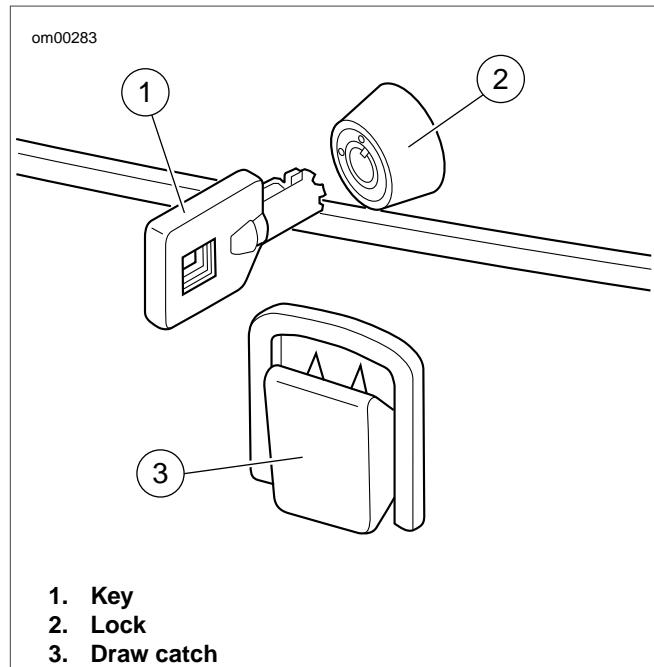

Figure 15. Tour-Pak Lock and Draw Catch
**Lock:** See Figure 15. Insert the key (1) into the neutral position (2) of the Tour-Pak lock (3) and turn the key 1/4th of a turn to the right. Return the key to the neutral position to remove the key.
**Unlock:** Insert the key in the neutral position of the Tour-Pak lock and turn the key 1/4th of a turn to the left. Return the key to the neutral position to remove the key.